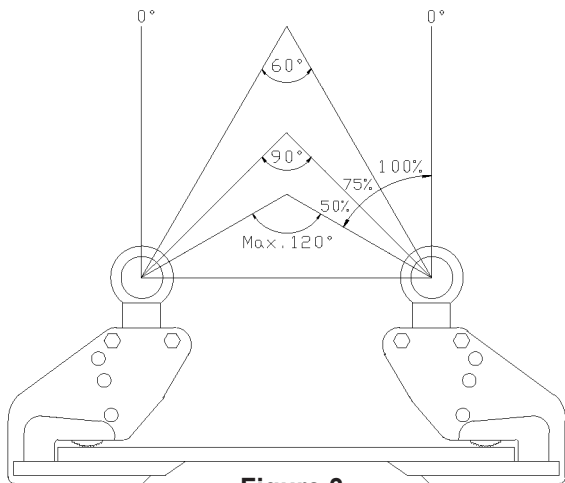

Figure 3
4. The rated capacity applies to one pair of lifting clamps with a top sling angle of up to sixty degrees (60°). As the top angle increases, the rated capacity of the clamps decreases proportionally (Fig. 3).